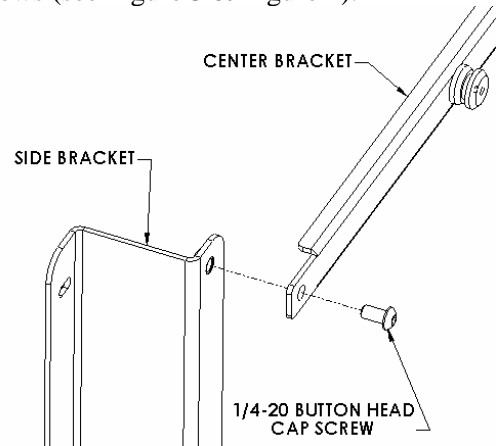

Figure 4
2. Attach center brackets to side brackets using the 1/4-20 screws (see Figure 3 & Figure 4).